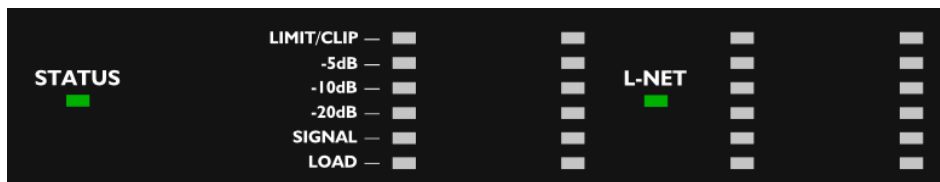

Figure 15: STATUS and L-NET LED
- green (see Figure 15) when the LA4X operates normally.
The **L-NET** LED is lit in green (see Figure 15) when the LA4X is remote controlled from software such as LA Network Manager (refer to the **LA Network Manager video tutorial**).